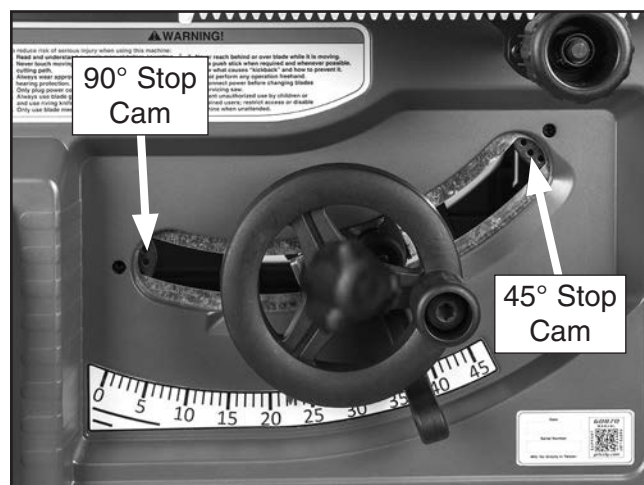

Figure 81. Location of 90° stop cam.
4. Tilt blade to approximately 25°, so there is room to adjust 90° stop cam (see **Figure 81**).